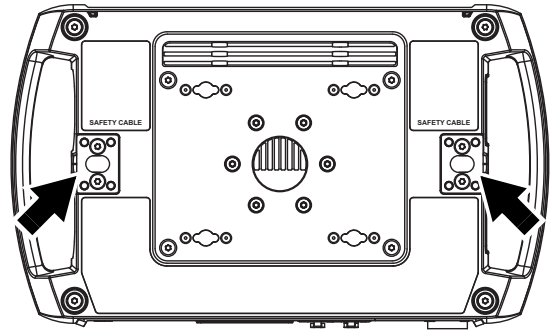

Figure 6: Safety cable attachment points
5. See Figure 6. Install a safety cable that is approved as a safety attachment for the weight of the fixture by looping it through a safety attachment point (arrowed) in the bottom of the